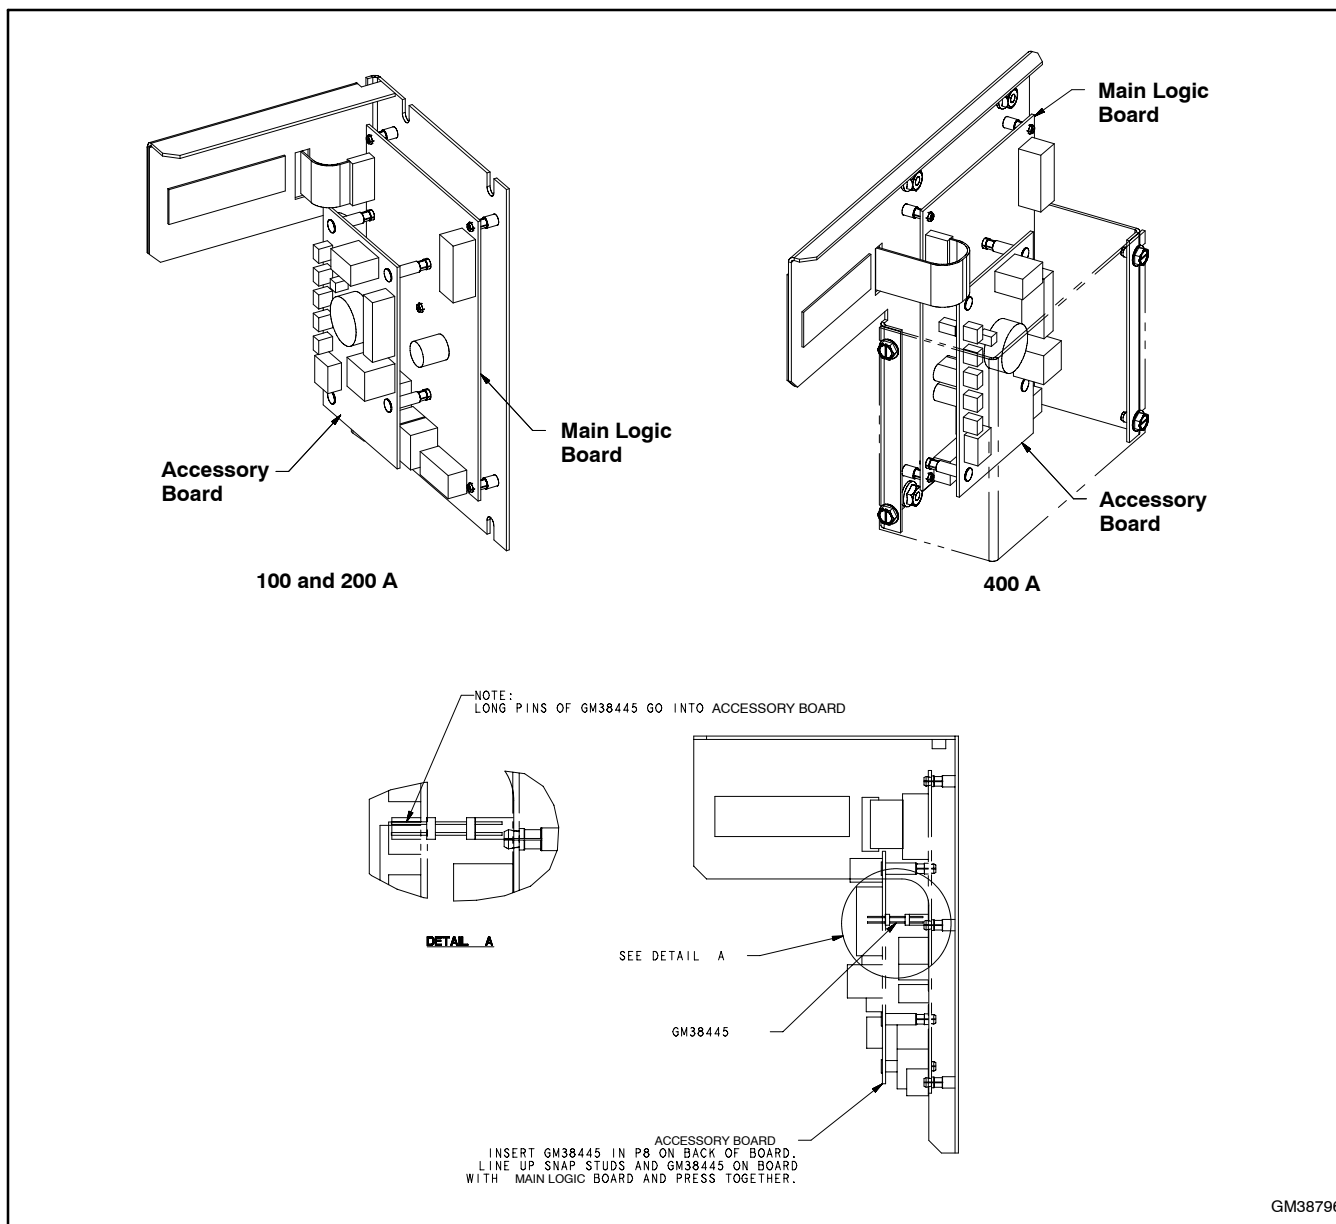

Figure 7-1 Controller Assembly with Accessory Board
6. 400 amp models only: Remove four screws and remove the guard from the controller assembly. See Figure 7-1.
7. Models equipped with the optional Accessory Board (see Figure 7-1):
12. Reinstall the Accessory Board, if equipped. See Figure 7-1.